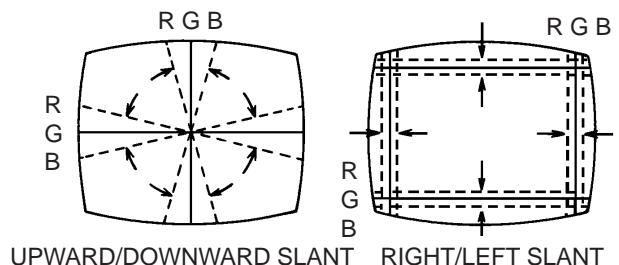

Fig. 3-2-a
2. Insert three wedges between the deflection yoke and CRT funnel to fix the deflection yoke. (**Refer to Fig. 3-2-b**)